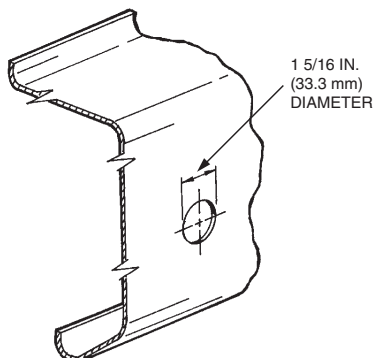

FIGURE 10
- Punch or drill a 1 5/16 in. (33.3 mm) diameter hole for mounting the actuator body. See Figure 10. Make certain there is enough room under the dash for the actuator body, cartridge, and the 1/4 actuation hose connection.